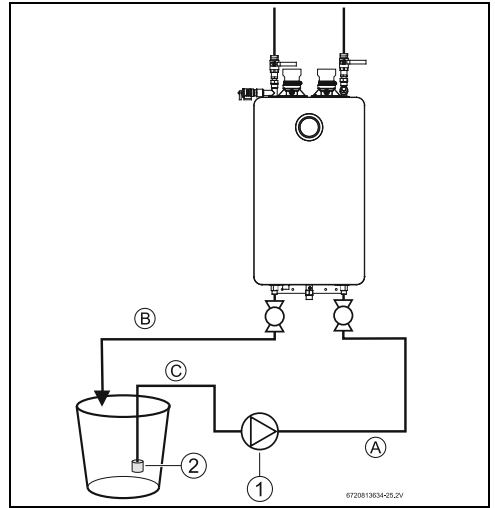

Fig. 55
- ▶ Connect a line (A) from the outlet of the circulating pump (installer supplied) to the inlet drain connection on the water heater (see fig. 55.)
- ▶ Using another line (B), connect the outlet drain connection on the water heater. Route the other end of this line into a descaling reservoir. Route the other end of this line into a descaling reservoir.
- ▶ Using a 3rd line (C) from the descaling reservoir, connect to the inlet side of circulating pump. Install a filter on the end of the line in the descaling reservoir.